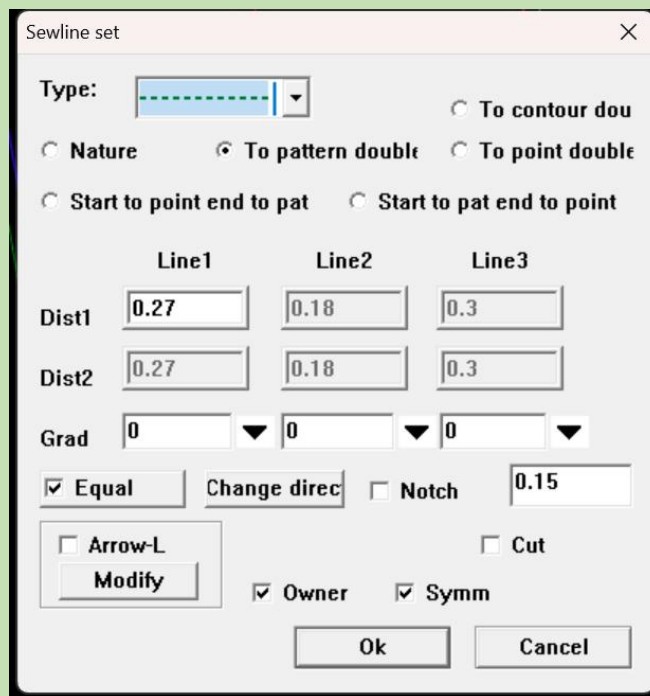

Figure10-15
3. In Figure 10-15, select the stitch type and set the stitch spacing, and then confirm (Note: You can also directly click on the pattern piece to set stitches around the entire piece. When setting the stitches, if the displayed position of the stitches is incorrect, you can change the stitch position to the opposite side by clicking on "Change Direction". Clicking on the existing stitches allows you to modify the stitch type and size).